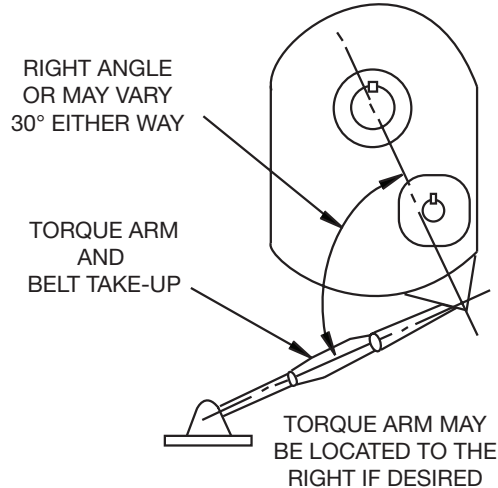

Figure 4 -
7. Install torque arm fulcrum on a rigid support so that the torque arm will be approximately at right angles to the center line through the driven shaft and the torque arm anchor screw. (See Fig. 4) Make sure that there is sufficient take-up in the turnbuckle for belt tension adjustment when using V-belt drive.